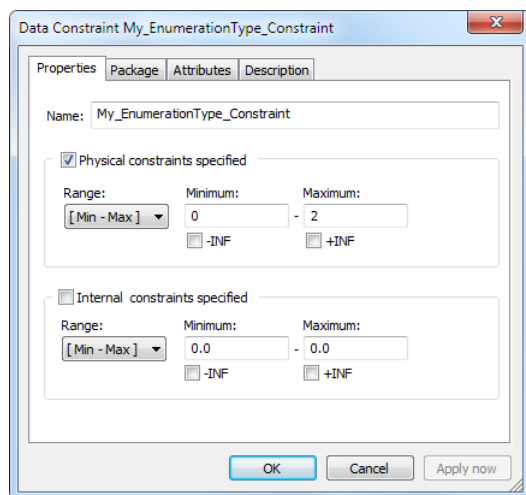

Figure 4-32 Enumeration constraint
- ▶ “My_EnumerationType” references “My_EnumerationType_Constraint” which specifies [0;2] as physical range (see Figure 4-32).